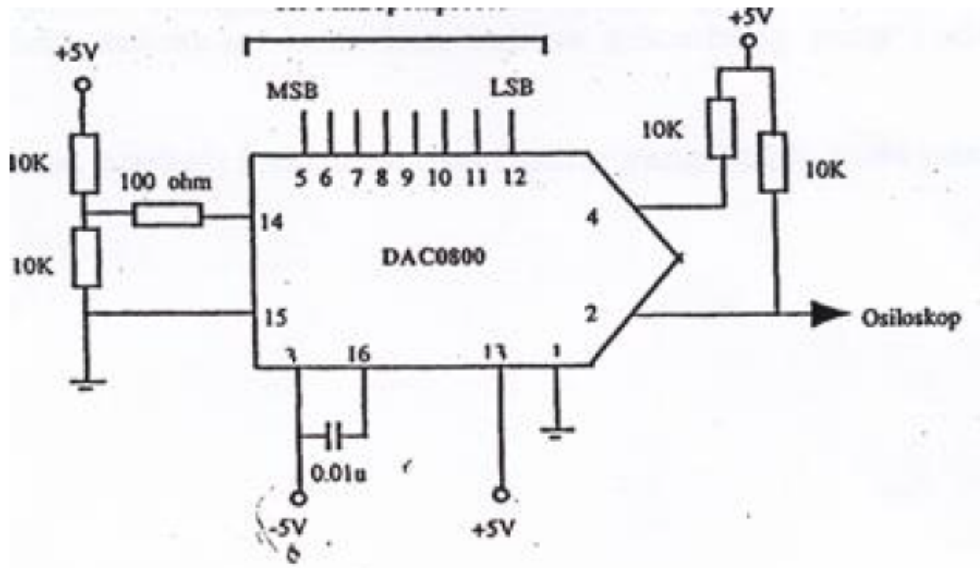

Figure 6.1: DAC0800 test circuit with op-amp output stage.
1. Connect the DAC0800 as shown in Figure 6.1.
1. Connect the circuit as shown in Figure 6.1.
2. Connect the circuit as shown in Figure 6.1.